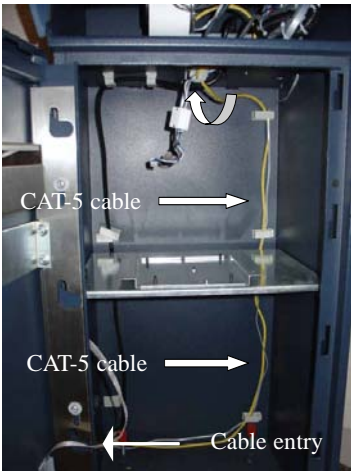

Figure 2-19a
1. Open the control panel hood. Turn the power switch on the power supply to the OFF (0) position.
3. Feed the CAT-5 cable from your LAN network connection through one of the cabinet base cable entry holes (Figure 2-19A).
4. Feed the CAT-5 cable up through the cable clips and through the opening to the control panel (Figures 2-19a and -19b). Cable is routed away from the AC power cable to minimize electromagnetic interference. You may have to remove the dispenser assembly for ease of cable installation. Cable end will be connected in later steps (Figure 2-19c).